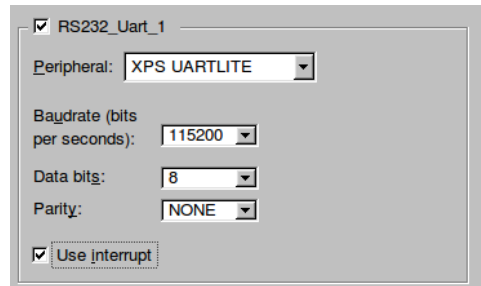

Figure 3: Configure RS232 UART
- (d) On the first page of the 'Configure IO Interfaces' portion of the BSB, select the 'RS232_UART_1' peripheral. Like last lab, select the 'XPS UARTLITE' variant. Unlike last lab, set the baud rate to 115200 and ensure the 'Use interrupt' option is selected (Figure 3).